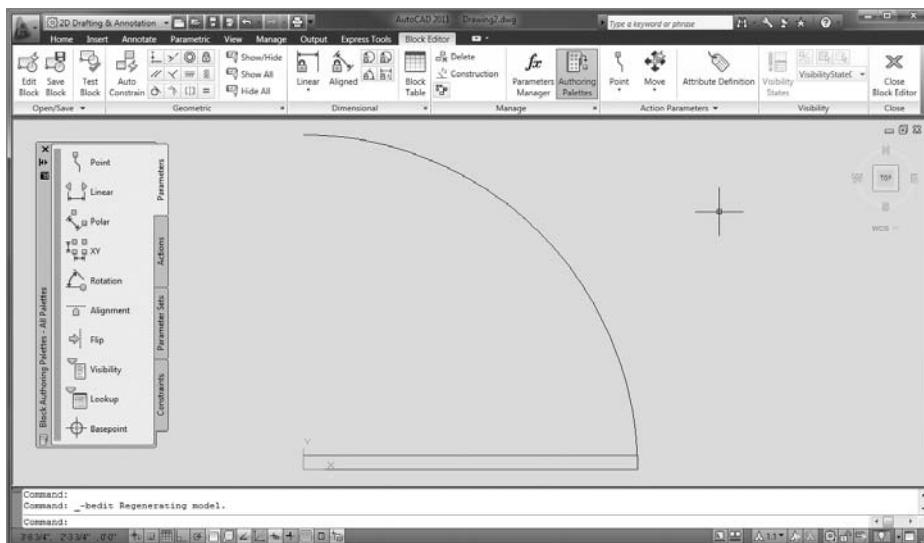

FIGURE 9.41 The door block in the Block Editor
- Pan the view, and adjust the Block Authoring palettes so that your screen looks similar to Figure 9.41.